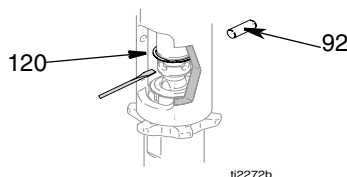
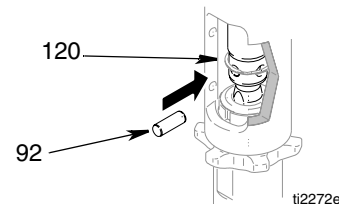

FIG. 8
FIG. 11
4. (Fig. 8) Push retaining ring (120) up; push out pin (92).
2. (Fig. 11) Slowly pull engine starter rope until pump rod pin hole is aligned with hydraulic rod hole. Fig. 8. Push pin (92) into hole. Push retaining ring (120) into groove.